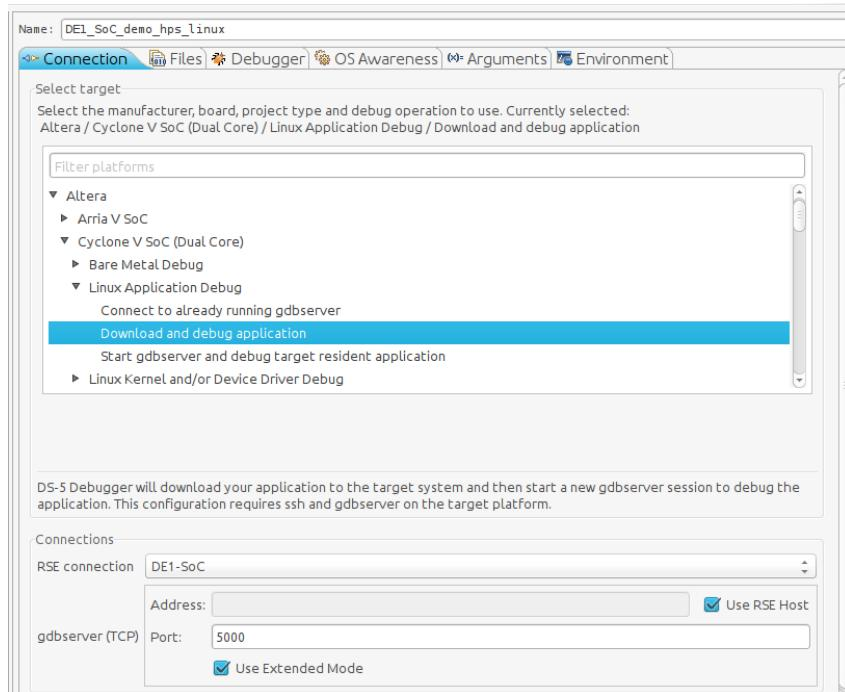

Figure 8-50. Debug Configuration "Connection" Tab
- b. Set the "RSE connection" to "DE1-SoC". This is the remote system connection we created earlier. You should have something similar to Figure 8-50.